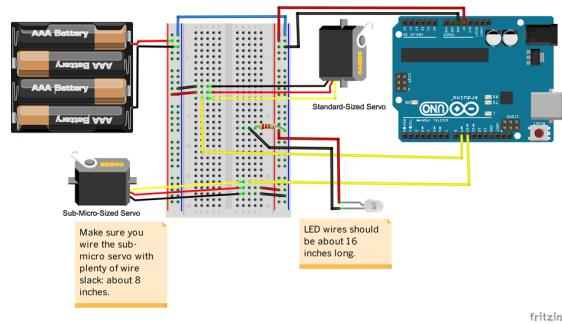

Figure 7-21 Fritzing diagram with LED wiring
2. Solder or otherwise connect the LED to hookup wires (Figure 7-21).